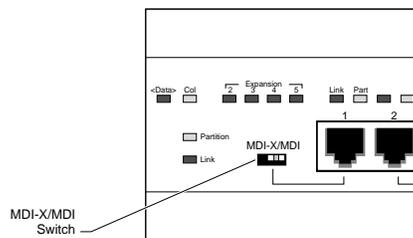

Figure 3-15. MDI-X/MDI Switch Set to MDI
1. Use a small flat-blade screwdriver to set the MDI-X/MDI switch on a Model 28xx to the MDI position (see Figure 3-15). This sets Port 1 as an MDI port.